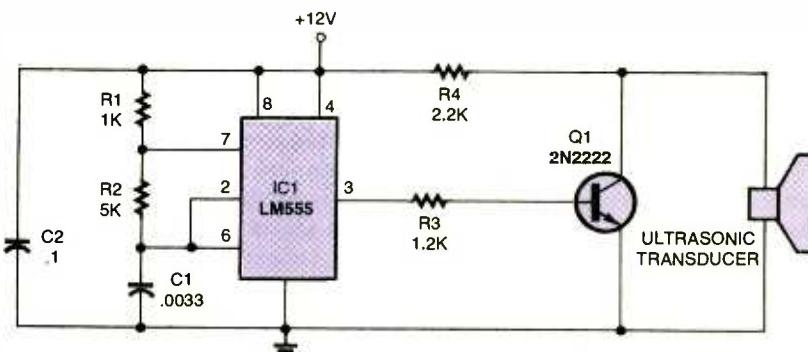

Fig. 1. Schematic diagram for a basic ultrasonic proximity transmitter.
Figures 1 and 2 show a basic circuit you can build that provides ultrasonic proximity detection. There are two parts: transmitter and receiver. The receiving transducer is positioned two or more inches away from the transmitter transducer. For best
Fig. 1. One simple form of proximity sensor relies on body capacitance. Radio-frequency (RF) oscillators are sensitive to stray capacitance due to the extreme frequencies they generate. A simple detector for the frequency shift can control any electrical device. That sensitivity is why you should use insulated tools when adjusting tuned circuits in radios and TVs.